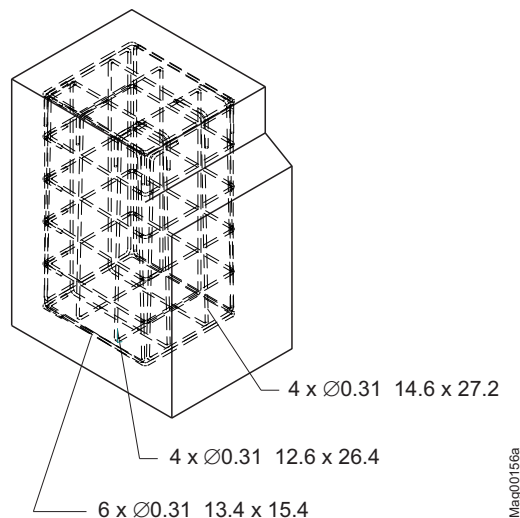

Fig. 15: Reinforcement grid
2. Place reinforcement grid pursuant to Fig. 15 in the foundation hole.